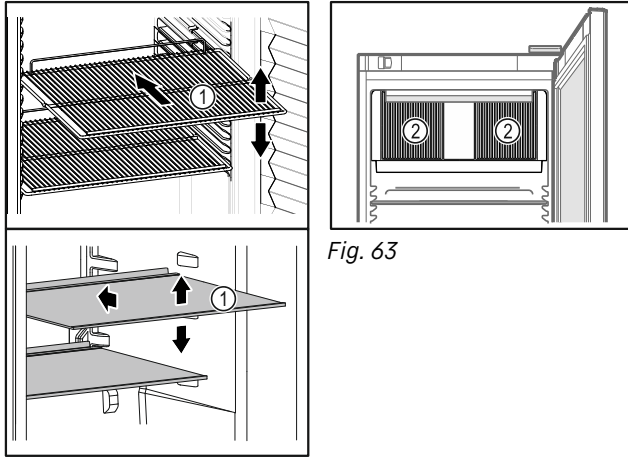

Fig. 62 Example illustration
- ❑ If shelves Fig. 62 (1) can be moved, adjust the shelves according to the height.